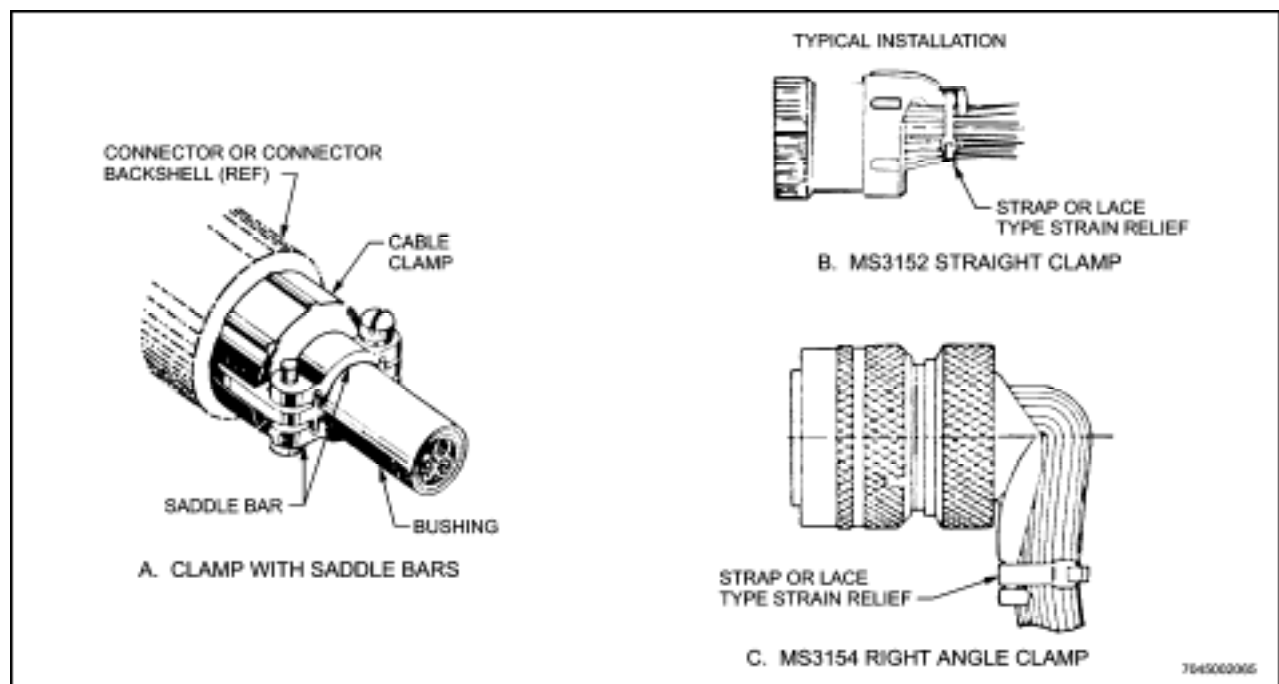

Figure 10-37 Cable Clamps
69. The MS3152 and MS3154 cable clamps are installed as follows (see Figure 10-37):
- e. Secure cable to saddle bar with lacing cord or self clinching cable straps (see Figure 10-37).